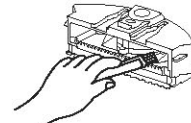

Figure 1
1. First dump the dust, and then clean it with Dust Brush. (Refer to Figure 1)